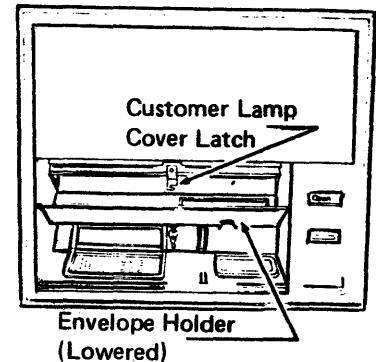

Figure 1
5. Support the cover to prevent it from falling, turn the key and lower the cover gently. For machines having the depository envelope holder, the customer lamp cover latch must also be moved to lower a second access cover (Figure 1).